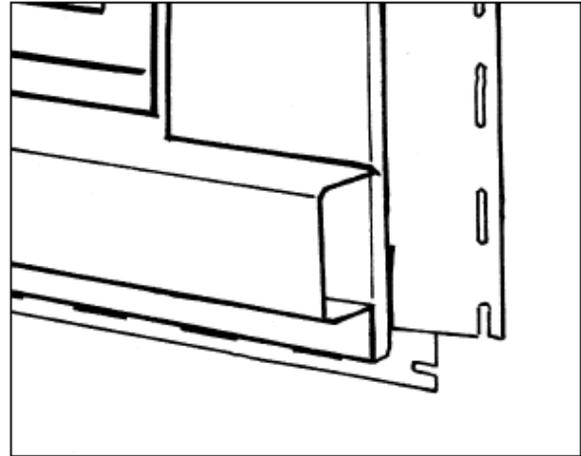

Figure 9
- 7) Install the side lineal sliding the face of the lineal into the receiving slot of the Sill lineal. (Figures 9 & 10)